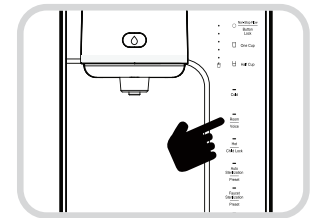

Fig. 3
1. Check if the Room water/Voice Display Lamp is ON and press the Room water/Voice button. (Fig. 3).
- Keep pressing the Out Flow button for two (2) seconds or more and the out flow will change to Manual Out Flow status.